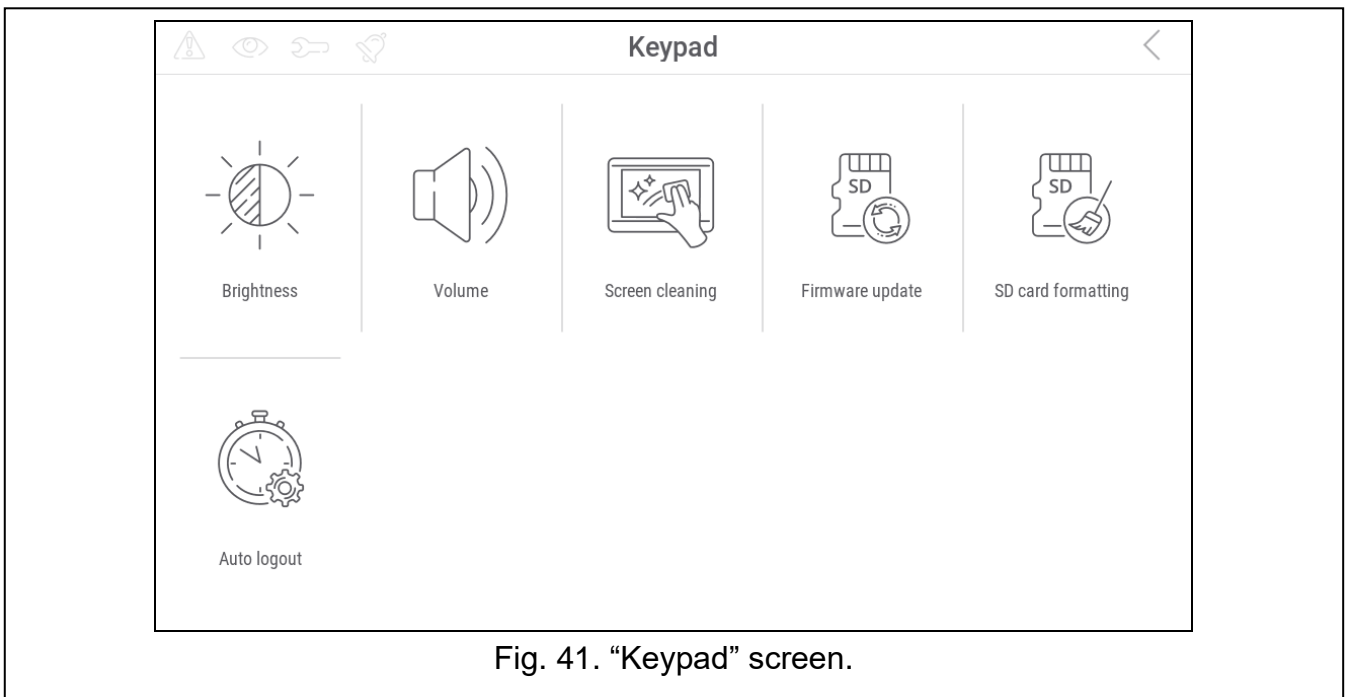

Fig. 41. "Keypad" screen.
6. Tap the "Keypad" function. The "Keypad" screen will be displayed (Fig. 41).
- 3. Tap the “Keypad” function. The “Keypad” screen will be displayed (Fig. 41).
- 8. Tap the “Keypad” function. The “Keypad” screen will be displayed (Fig. 41).